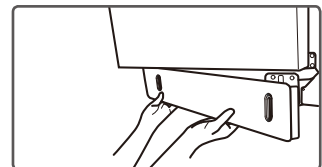

Fig. 6
- Remove the toe kick from the base. Fig. 6.